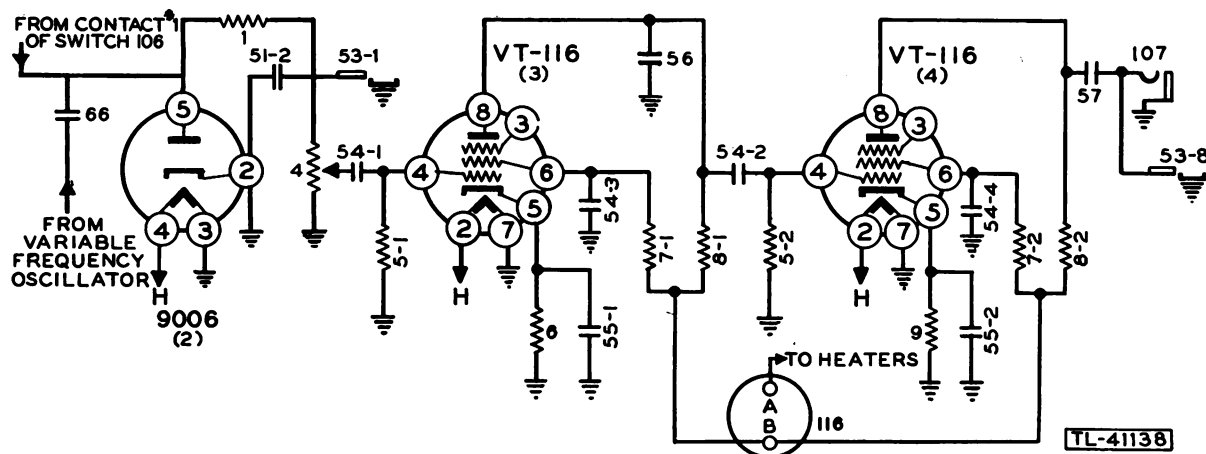

Figure 8. Detector and amplifier.
(1) Resistor 17 is a B+ dropping resistor, capacitor 51-3 is an r-f bypass. Chokes 102-1 and 102-2 together with spark-plates 53-2 and 53-3 and capacitor 58-2 are r-f filters.
(2) The output is developed across a low impedance coil, mutually coupled to the oscillator tank inductance. It is coupled through a shunt impedance to the diode detector and also to the attenuator system and r-f output.
(3) Resistor 16 and capacitor 59-2 in parallel act as a network that discriminates against low frequencies. The impedance of the network is the parallel combination of the capacitive reactance of 59-2 and the constant resistance of 16. In the l-f band, the reactance of capacitor is very high and the impedance of the network is 900 ohms, or the resistance of resistor 16. In the h-f band, the reactance of the capacitor is much lower and the parallel impedance of the network is lowered to 1/10 of the value of resistor 16 to approximately 90 ohms. Accordingly, there is a lower voltage drop across the network on the h-f band and more voltage is applied to the diode detector. This is necessary to bring up the voltage level of the harmonic content since for the h-f range the third harmonic of the oscillator is used.
d. Detector (fig. 8).
(1) The output of the two-range oscillator is coupled through capacitor 66 to the plate of diode tube 9006, which is used as a detector. If the TEST-CRYSTAL knob is in the CRYSTAL position, the output from the crystal oscillator is applied to the detector